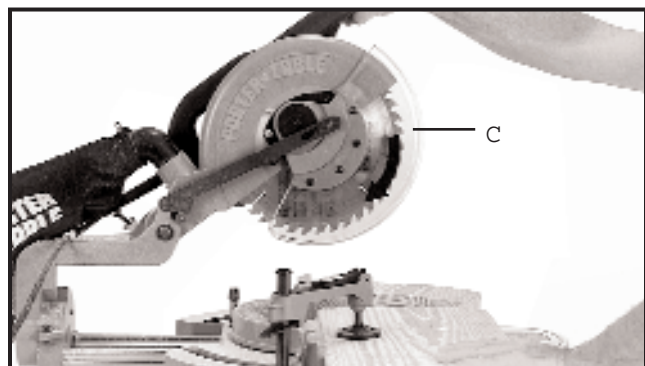

Fig. 44
6. After the blade has stopped, raise the cuttinghead (C) to the up position, as shown in Fig. 44.